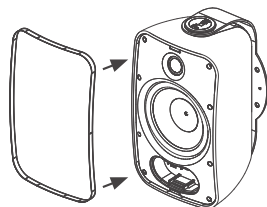

FIGURE 11:
- Fit the grille onto the speaker by aligning the edges of the grille with the groove of the speaker face perimeter and pressing firmly until it is snugly in place.. (see figure 11).